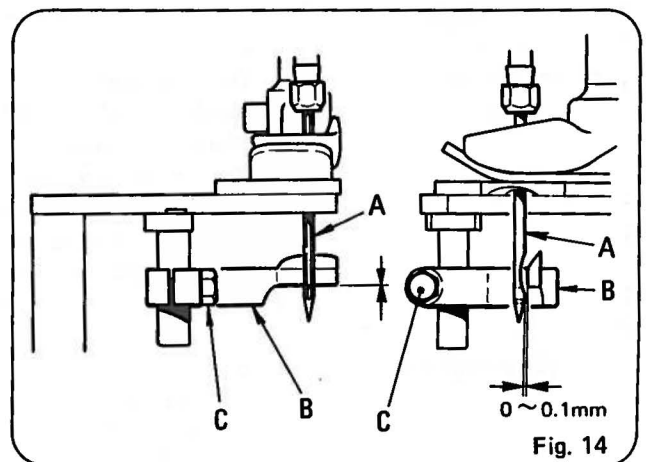

Fig. 14
4 – 5 Needle Guard (Figure 14 refers)
the upper edge of the needle hole must be even with the lower surface of the needle guard (B) when the needle (A) is in the lowest position in its travel. To adjust, loosen the screw (C) and move the needle guard (B) in the vertical direction. Make necessary adjustment so that the clearance between the needle (A) and the needle guard (B) is 0 to 0.1 mm, as shown in Figure 14. Be careful that the needle (A) will not contact the needle guard (B).